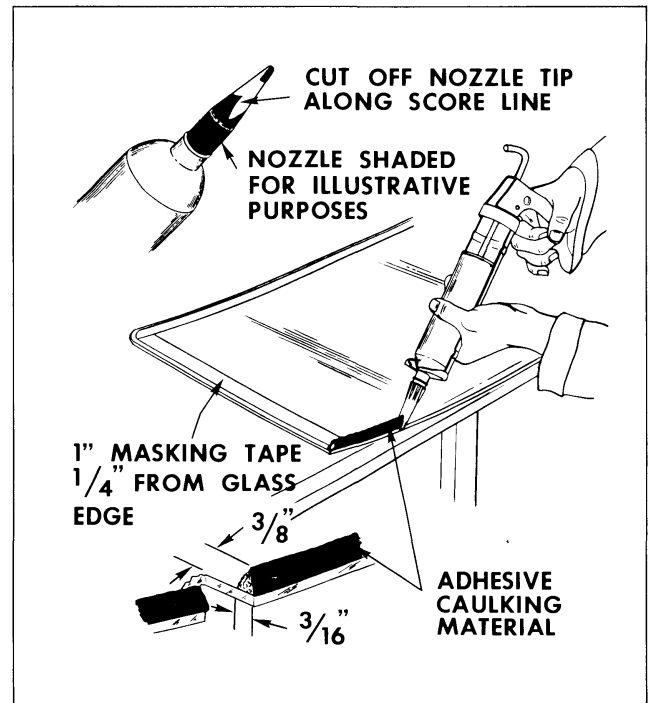

Fig. 11-11 Applying Adhesive Caulking - Extended Method
11. Cut off tip of one nozzle along score line (Fig. 11-11). This nozzle will be used to apply bead of adhesive caulking material to glass. Cut tip off other nozzle at 45° angle 1" below end of nozzle. This nozzle will be used to apply "smear bead" of adhesive caulking material to pinchweld flange.
15. Positioning gun and nozzle as shown in Figure 11-11, carefully apply a smooth continuous bead of caulking material 3/8" high by 3/16" wide at base completely around inside edge of glass. When material in first tube is dispensed, quickly insert second tube and continue application of bead. After application, check bead and fill all voids and air bubbles.